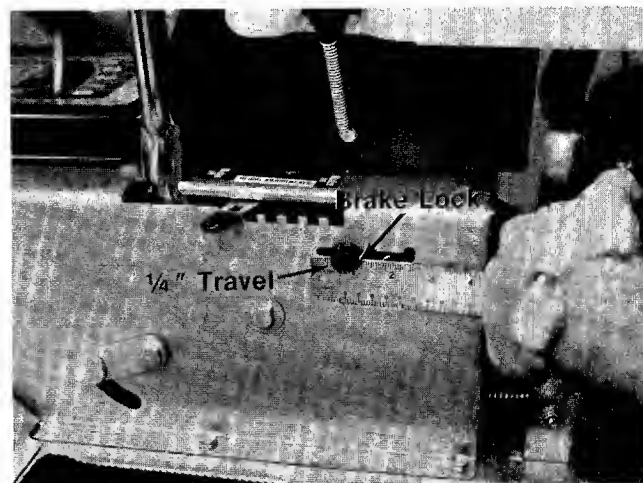

FIGURE 28.
3. If the adjustment is correct, the brake lock should move $\frac{1}{4}$ inch. See figure 28.